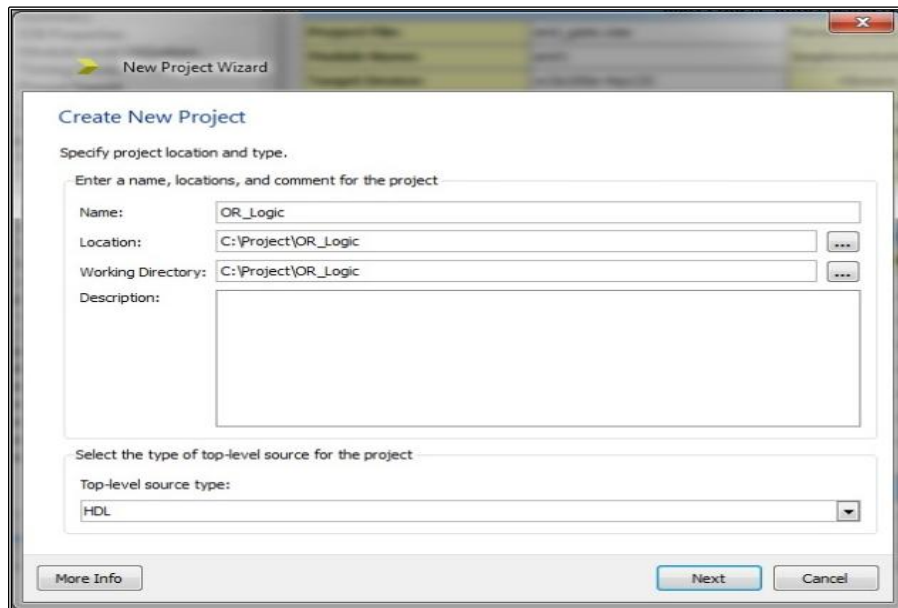

Fig 1.2: New Project Wizard window
- The **New Project Wizard** window will be displayed. In the **Name** field type OR_Logic (i.e. name of the project) and in the **Location** field, choose the directory in which you have to store the project. For the current project it is C:\Project\OR_Logic (Fig. 1.2)